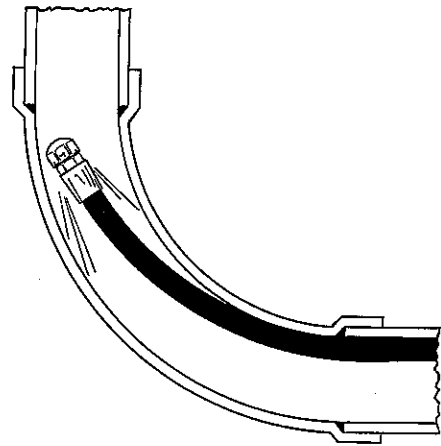

Figure 11.
2. Repeat until the "SET" at the end of the hose aligns with and moves through the bend(s). (See Figure 11)